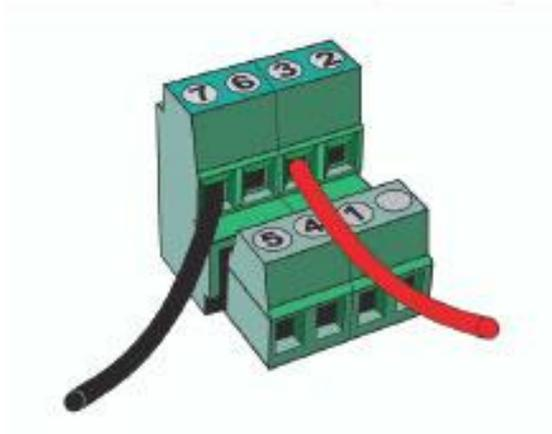

Figure 14: "Control wiring C"
- 4 Terminate Control cable as per Figure 14 “Control wiring C”